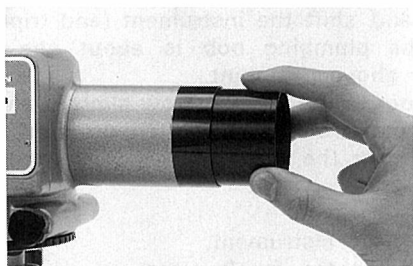

Fig. 10
- (5) Take a firm hold on the lens cap attached over the objective lens and pull strongly, which will extend the sun shade. (See Fig. 10)